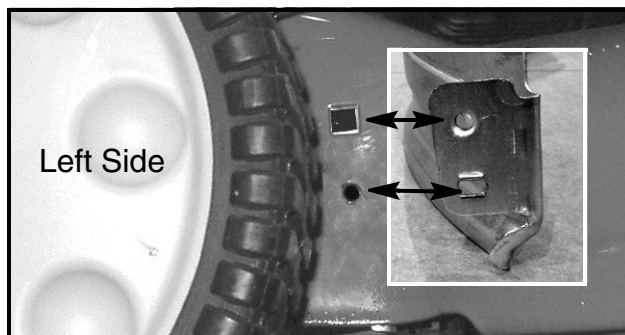

FIGURE 5
11. Compare the hole pattern on the new baffle with the hole pattern in the deck. Do this for the left (LH) side and right (RH) side of the deck.
12. Normally on the right (RH) side, the hole pattern in the deck matches the hole pattern of the new baffle.
13. With a black marker, mark the side of the new baffle that **DOES NOT** match the hole pattern on its' side of the deck, normally the left (LH) side. See Figure 5.